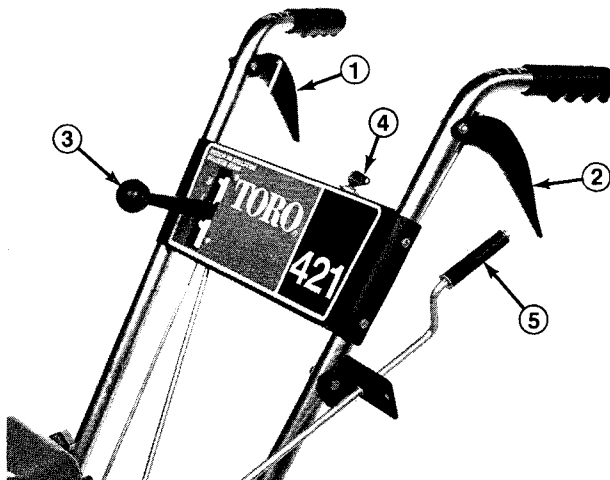

Figure 16
**Auger Drive Control** (Fig. 16) — Control has two positions: ENGAGE and DISENGAGE. To engage auger and impeller, compress lever against right handle grip. To disengage, release lever.
**Traction Control** (Fig. 16) — To achieve traction, lever must be compressed against left handle grip. To stop traction, release lever.
**Speed Selector** (Fig. 16) — The control has four positions: reverse, 1, 2 and 3. To change speeds, move gear shift to position desired. Lever will lock in notch at each speed selection. Use positions 1, 2, and 3 depending on snow conditions.
**Ignition Switch** (Fig. 16) — Switch has two positions: ON and OFF. Rotate key to ON before starting engine with the recoil starter. To stop engine, rotate key to OFF.
**Discharge Chute Control** (Fig. 16) — Rotate discharge chute control clockwise to move discharge chute to the left and counterclockwise to move chute to the right.
4. Rotate ignition key to ON (Fig. 16).
1. Release traction and auger drive control (Fig. 16).
2. Move throttle to slow and rotate ignition key to OFF (Fig. 16).